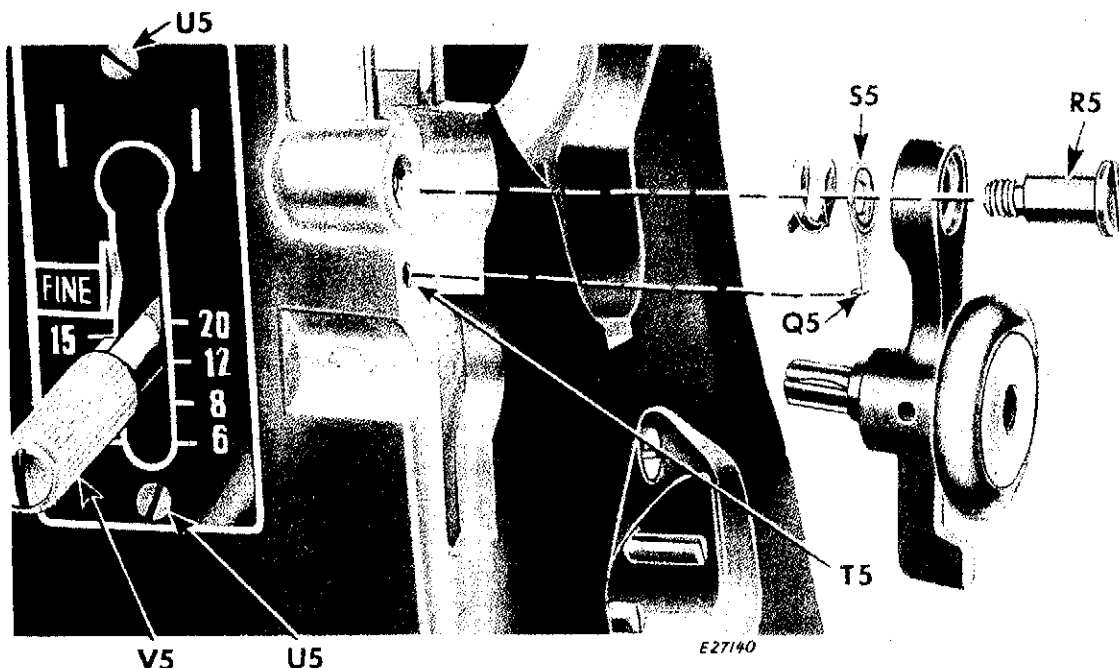

Fig. 312. Bobbin Winder Removed
2. Remove screw **R5**, Fig. 312.
3. Disassemble as shown in Fig. 312.
1. Assemble in order indicated in Fig. 312.
2. Remove two screws **U5**, Fig. 312, holding stitch regulator plate.
3. Move feed regulator **V5**, Fig. 312 to bottom of slot in indicator plate.
1. Install regulator **V5**, Fig. 312 in arm, making certain that slide fits on block on feed fork connection.